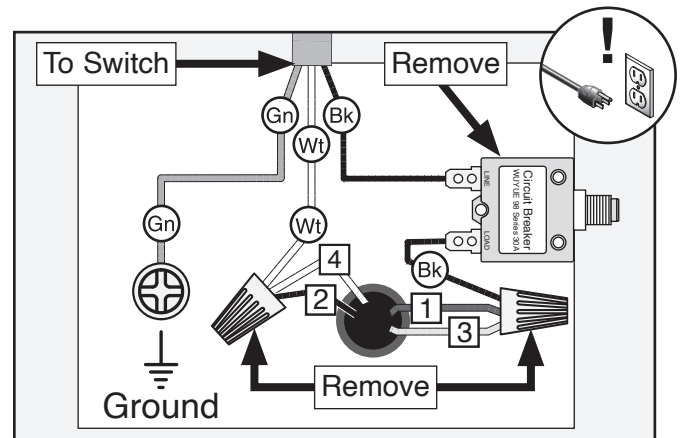

Figure 7. Inside motor junction box.
4. Open motor junction box, then remove (2) wire nuts and circuit breaker indicated in **Figure 7**.